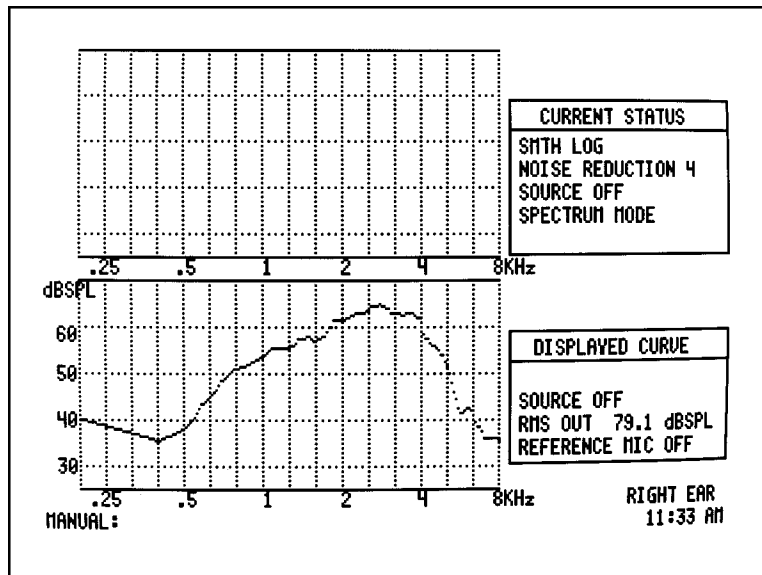

Figure 10.5.2—Real-ear spectrum analysis mode
11. Press [START/STOP] to begin spectrum analysis. Press [START/STOP] once more to freeze the measurement. See Figure 10.5.2.